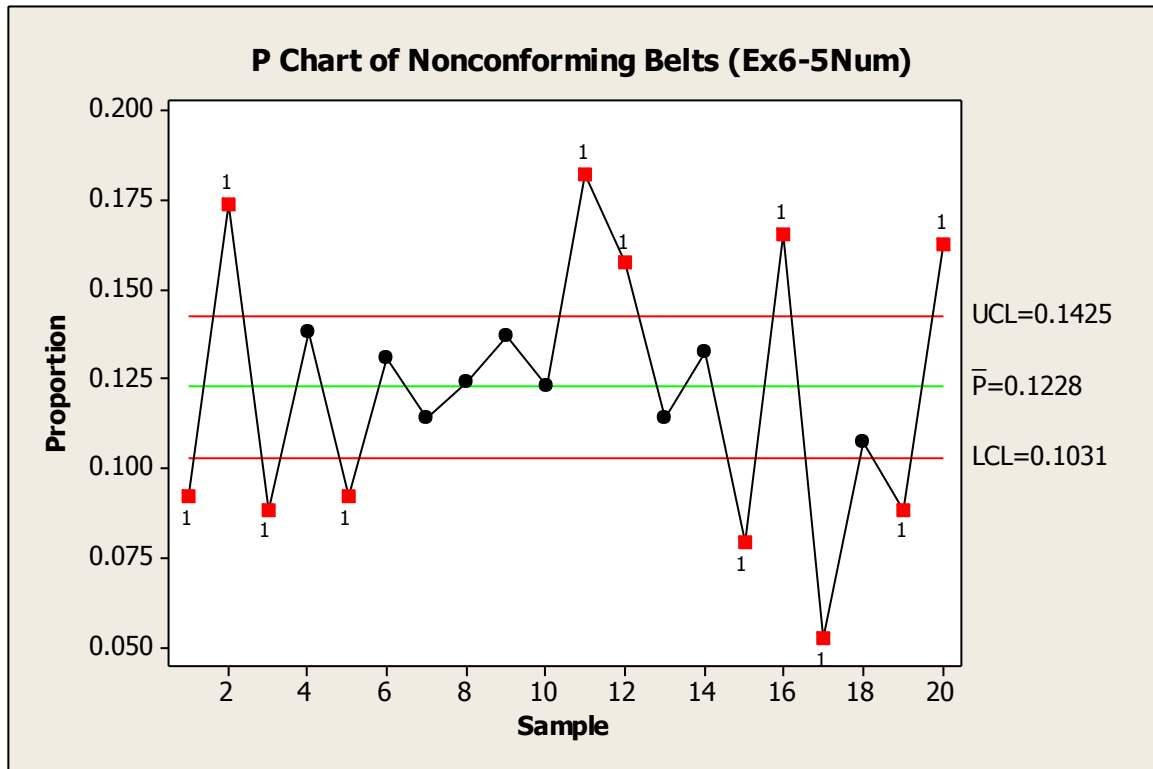

Figure-1: A trial Control Chart for Rubber Belt
A process produces rubber belts in lots of size 2500. From the inspection records the last 20 lots, a Control Chart plotted as shown in Figure-1. Answer the following questions.
- What type of Control Chart is plotted in Figure-1? (2 marks)